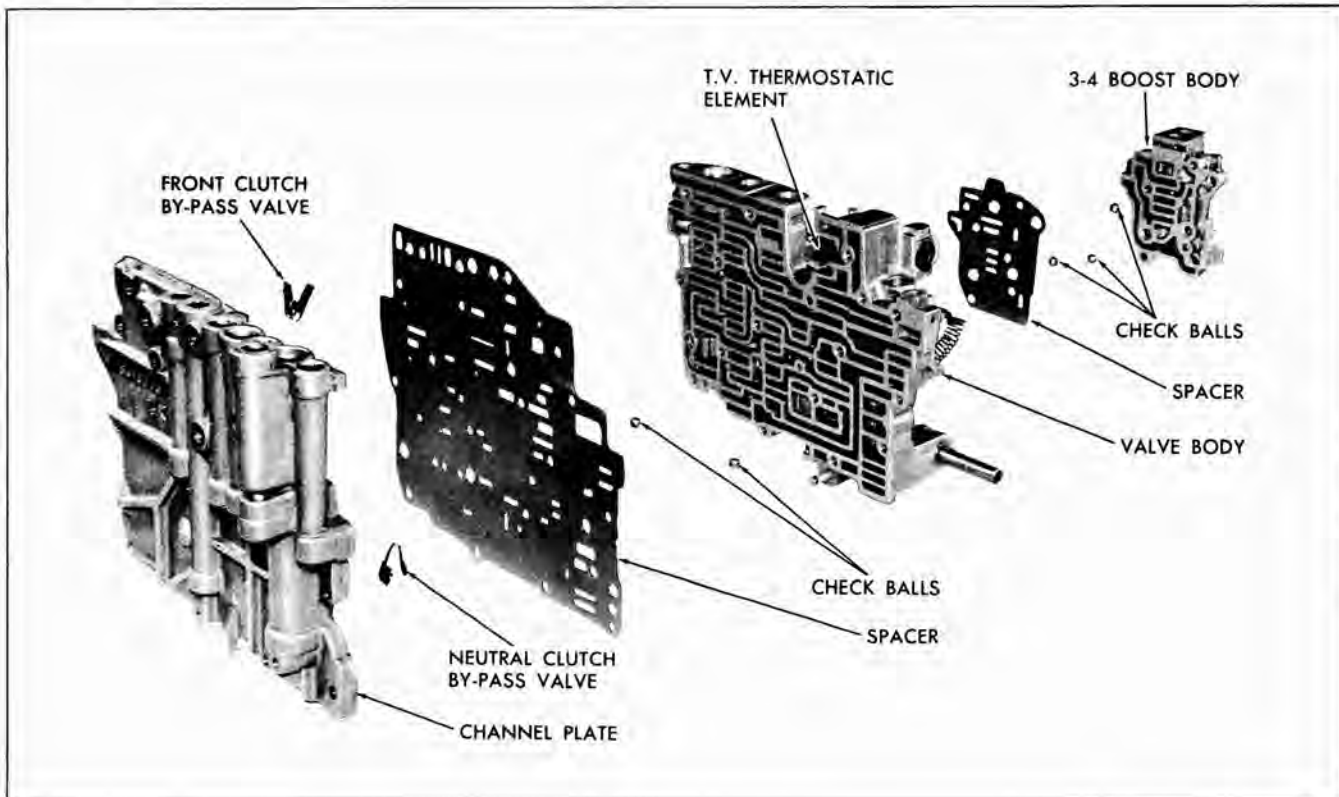

Fig. 107 Control Valve Assembly
The following inspection procedure is to be used for the compensator valve body, the 3-4 boost body, and the control valve body (Fig. 107).
1. Remove the 3-4 boost body assembly by removing 4 attaching screws. (One screw is located on channel plate side of body.) The 3-4 boost body contains 3 loose check balls and care should be exercised to prevent their loss (Fig. 107).
1. Remove channel body from valve body assembly by removing two attaching screws from the valve body side and thirteen attaching screws from the channel plate side (Fig. 107).